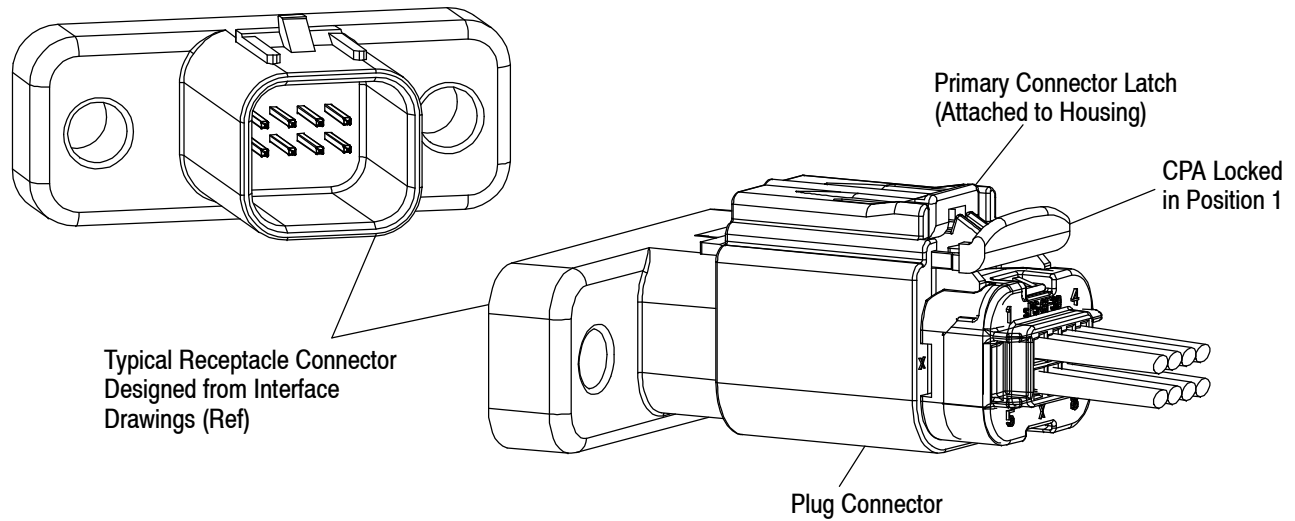

Figure 11
1. The CPA is locked in Position “1” during shipping and handling before engaging the primary connector latch. The CPA can not move forward until the connectors are mated and the primary connector latch is mated with an audible and tactile “click” and engages. Refer to Figure 11.